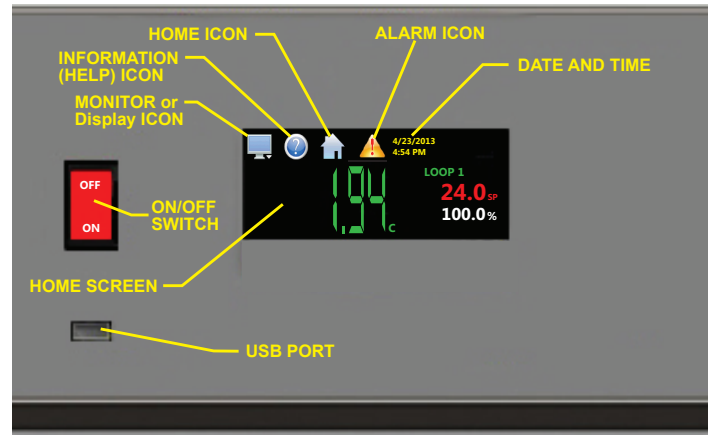

Fig. 15: TS Series Controller Interface Screen
2. Switch on the Warming Cabinet by pressing in the ON side of the ON/OFF switch. Touch screen will light up for use (Fig. 15).